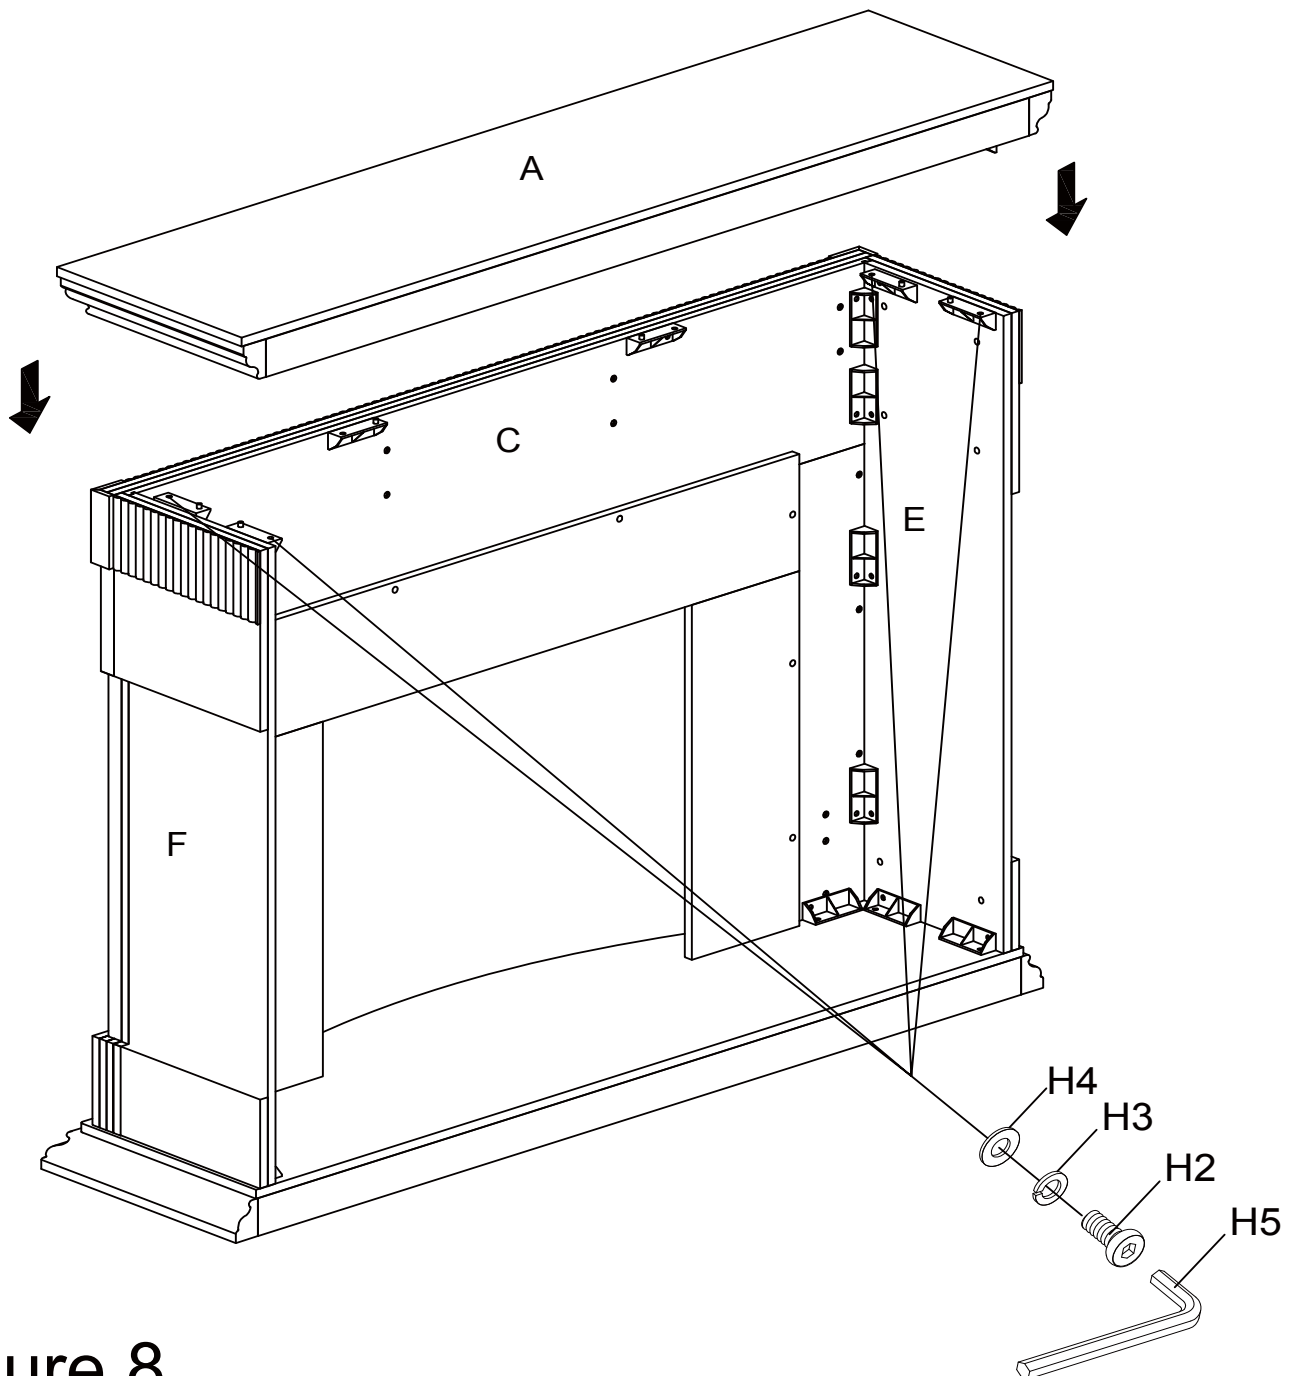

Figure 8
With assistance from another adult, align the tenons of Left and Right side panel (E and F), Front panel (C) with the corresponding holes in Top (A) as shown in figure 8. Take care not to pinch your fingers as the top is lowered in place. Secure Top (A) to the Left and Right side panel (E and F), Front panel (C) with Short bolt (H2), Spring washer (H3) and Flat washer (H4) using Allen wrench (H5). Adjust all parts to minimize any gaps between panels and Fully tighten all bolts from Steps 1-8. As shown in figure 8.